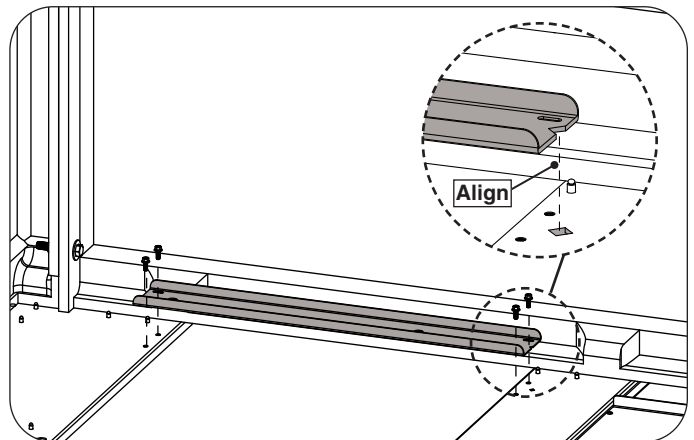

Fig. 3-2 Install support channel to wheel assemblies
4. Place the support channel, and align the right side of the channel to the diamond cutout on the right wheel assembly. Fasten using the included hardware and a $\frac{3}{8}$ " open-end wrench or equivalent. Hand tighten only. See Fig. 3-2.